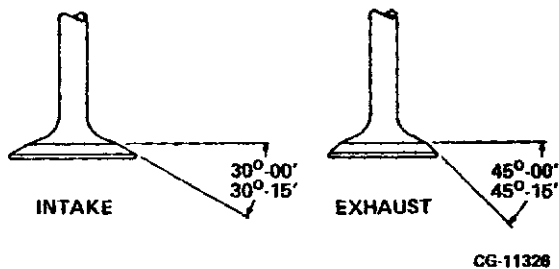

Figure 4.40. Valve Face Angles
**NOTE:** If valves are in serviceable condition, reface the valve to the specified angle, as required. Refer to Figure 4.40.